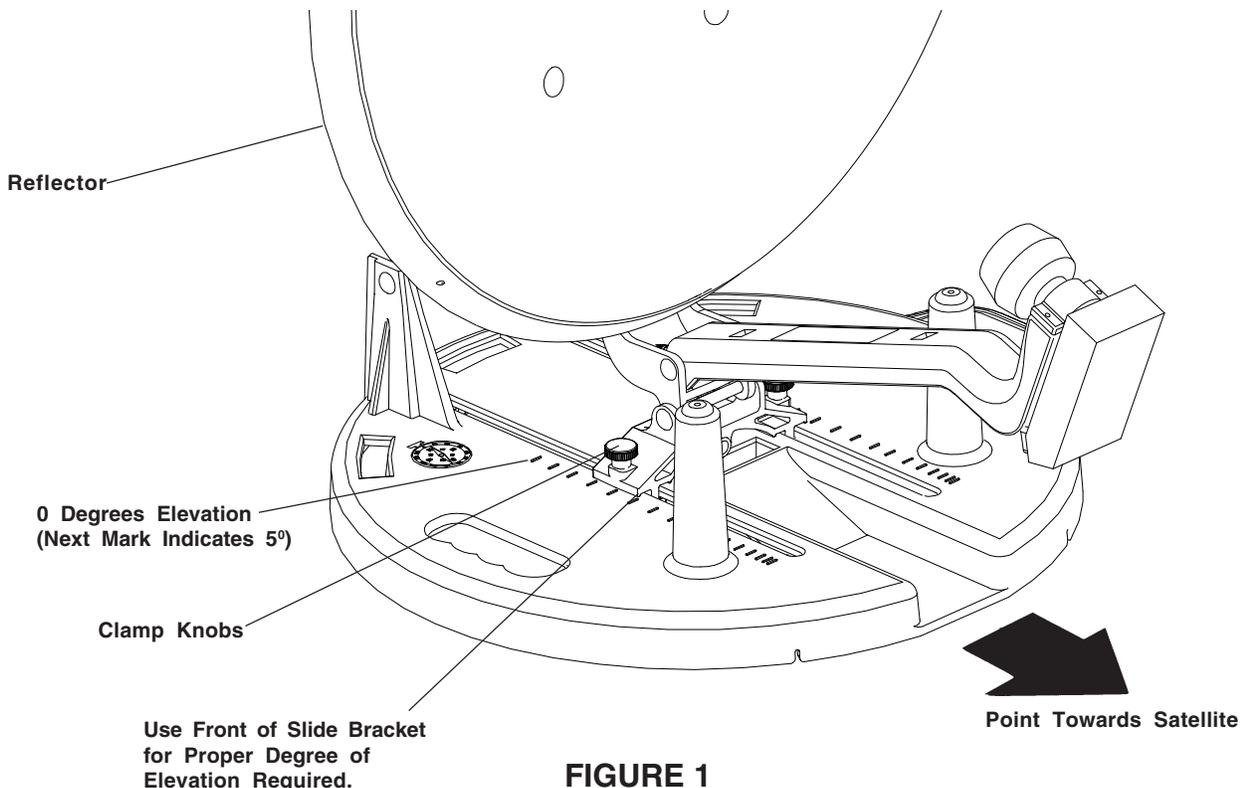

FIGURE 1
STEP 6. Loosen clamp knobs. Elevate reflector to the correct elevation. Align degree of elevation required with front of the slide bracket. Each mark indicates 5 degrees of elevation with the first mark being 0° (mark closest to compass/level). See Figure 1. Tighten clamp knobs.